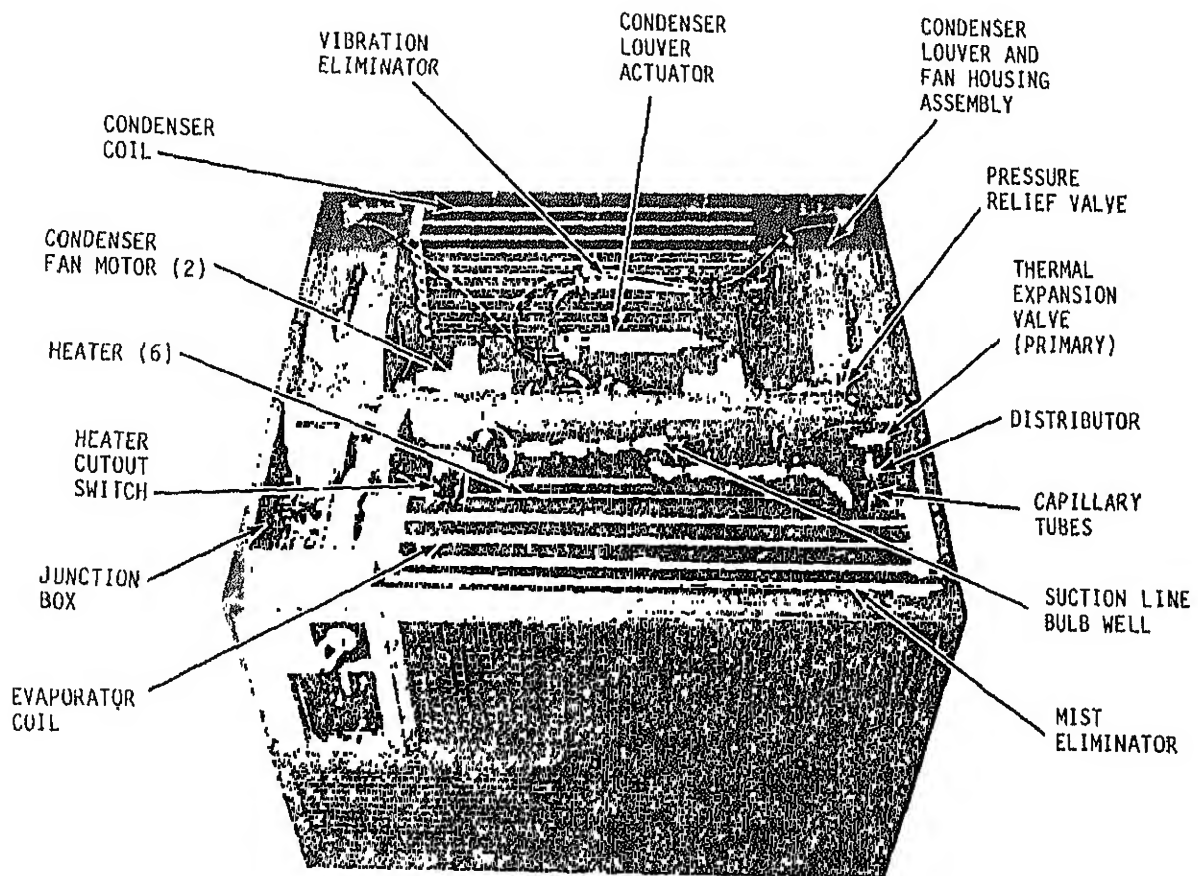

Figure 1-3. Air conditioner top view, top covers removed
a. Evaporator Section. The evaporator section (fig. 1-3), located in the front of the air conditioner, contains intake and discharge air louvers, air filter, mist eliminator, evaporator coil, evaporator motor and fans, heater elements, heater thermal protector, primary expansion valve, condensate drain
b. Condenser Section. The condenser section (fig. 1-3) located in the rear